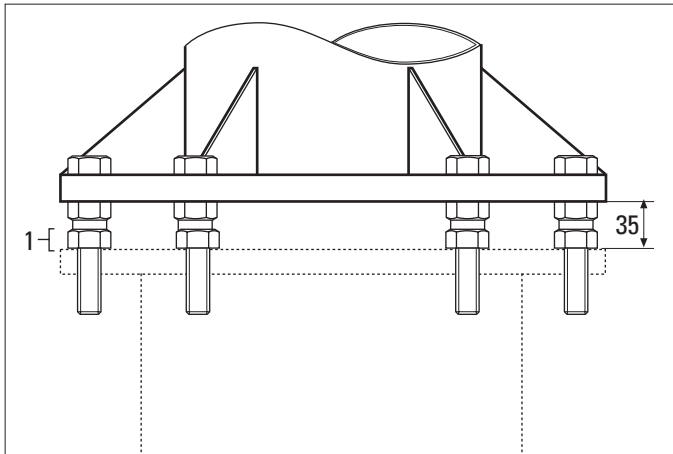

Fig. 1
⇒ Screw the upper 6 nuts M12 (1) onto the threaded rods until the defined distance of 35 mm between the lower edge of the bracket and the lower edge of the nuts is reached (Fig. 1).